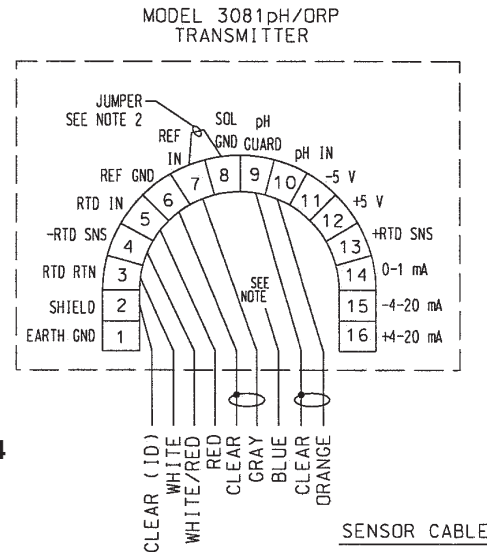

FIGURE 4
- Wire sensor Model 381+-52, 385+-04, 396P-02-55, 396P-02-55, or 396R-54 as shown in Figure 4.